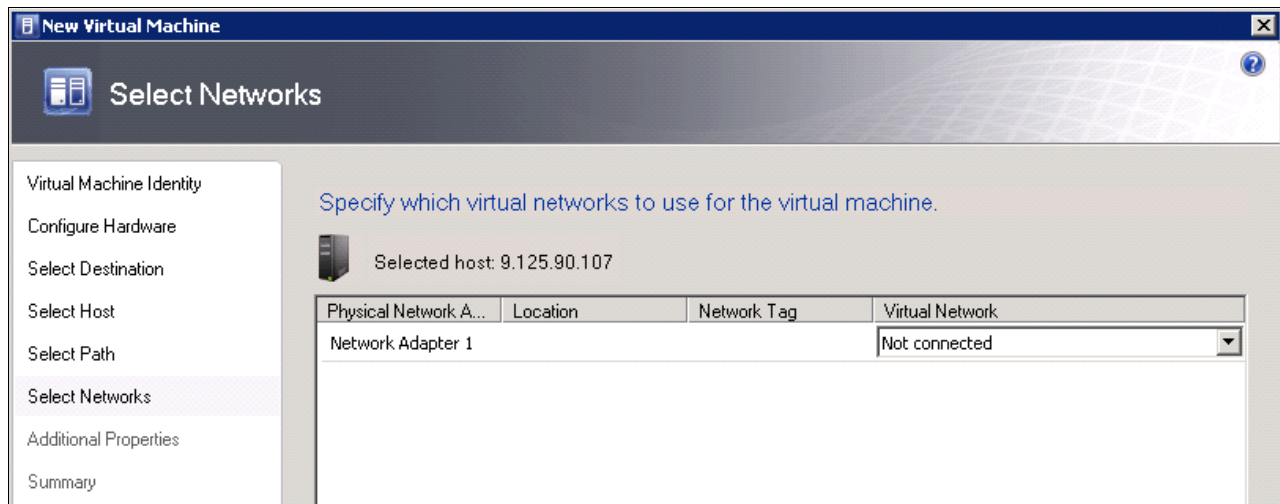

Figure 3-68 SCVMM New Virtual Machine: Select Networks
7. In the Select Networks window, define the settings of the network for the new virtual machine, as shown in Figure 3-68. Click **Next**.